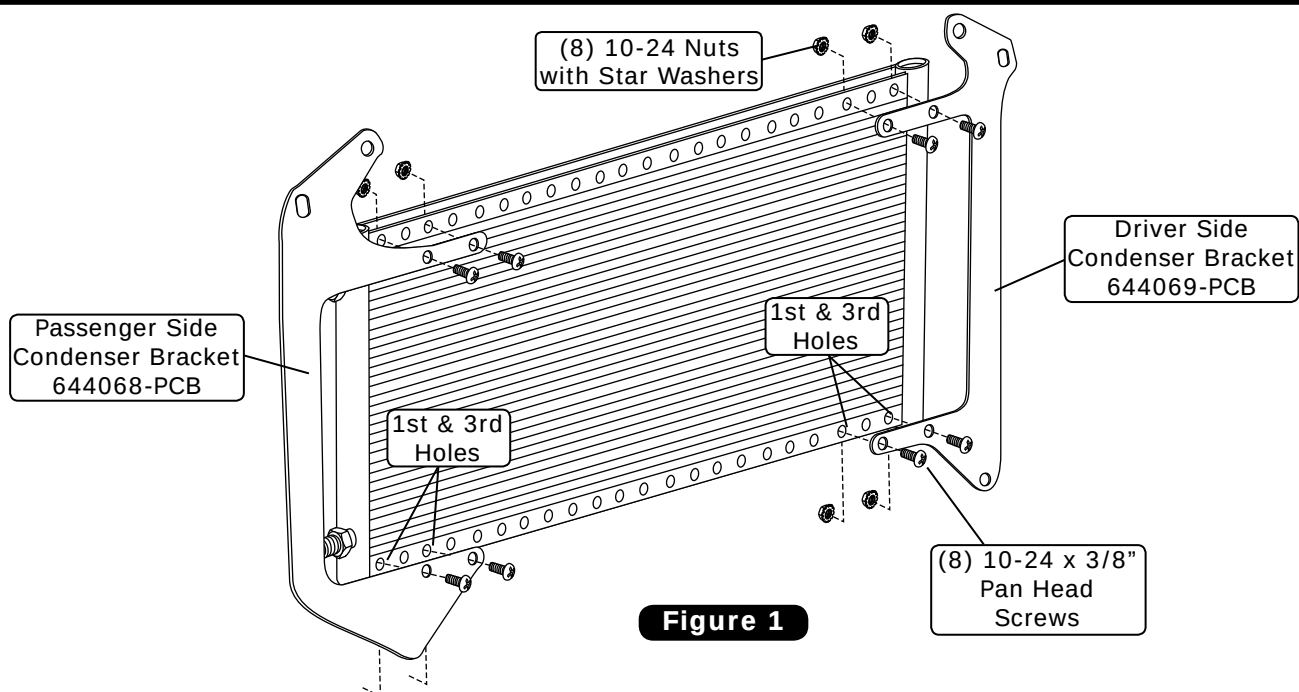

Figure 1
1. Install the condenser mounting brackets onto the condenser using (8) 10-24 x 3/8" pan head screws and (8) 10-24 nuts with star washers (See Figure 1, below). **NOTE: The brackets mount to the outside of the flange through the 1st and 3rd holes on each side of the condenser.**